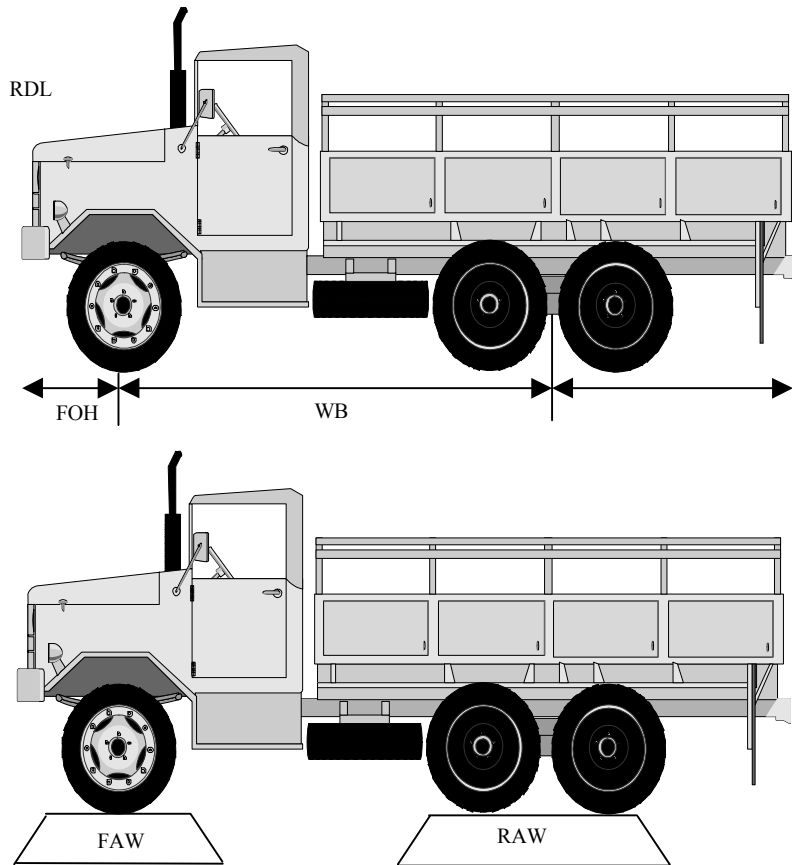

Figure P-1. Vehicle Measurement Points
2. The following terms are used to calculate CB of a vehicle, see Figure P-1:
- c. Wheel Base (WB). Distance in inches from center of front axle to center of rear axle or center of tandem axles.